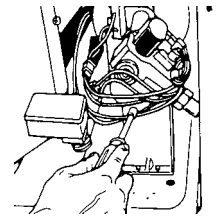

Fig. 33
4. Remove the two (2) screws securing the burner assembly to the mounting bracket. (Fig. 33)